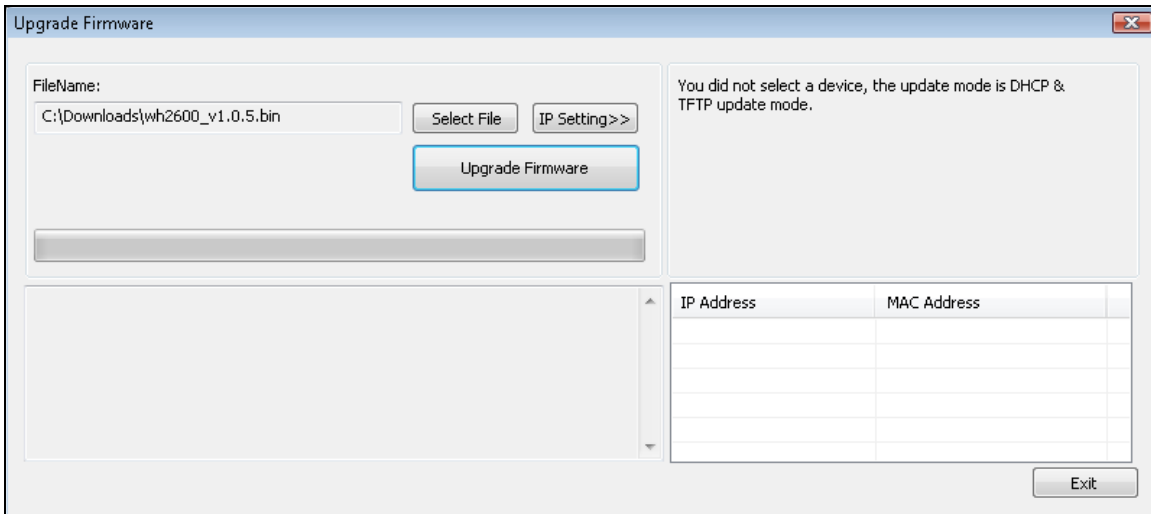

Figure 23
4. Reference Figure 23. Select the **Select File** button, and browse to the location of the file you downloaded in Step 1.